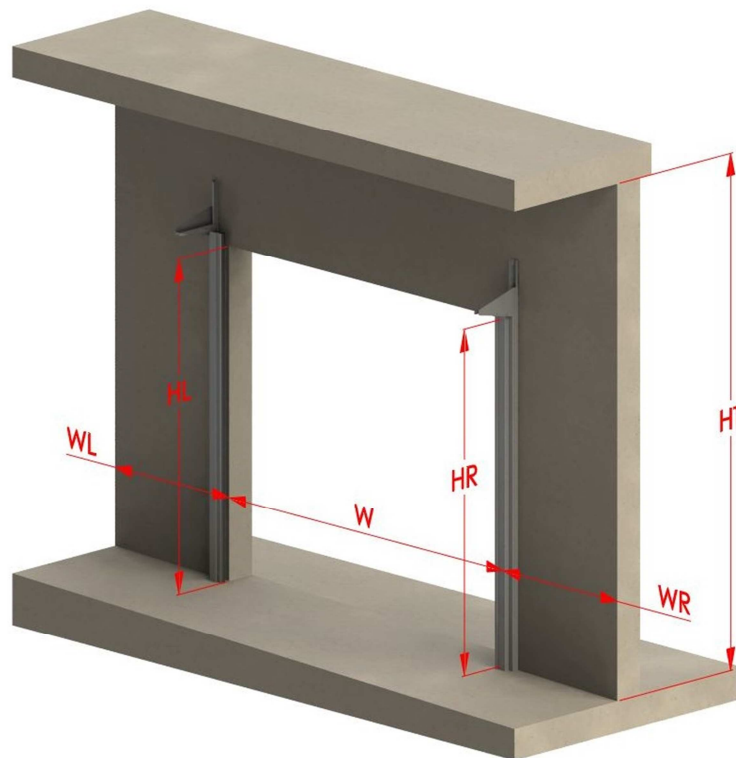

Figure 1
Before starting any installation work, make sure that the right space (WR) and left (WL) of the opening as well as the total height (HT) is sufficient to fit the guides (this is not required when the installation is in "tunnels", meaning between the walls. Also, a check should be made if the floor is tilted to make the necessary corrective movements by cutting a section of the lower part of the guide, which will be placed in the highest altitude position (Figure 1). The purpose of the process of controlling the height difference of the floor is that after lifting and supporting the guides, the roller bearings must be at the same height.